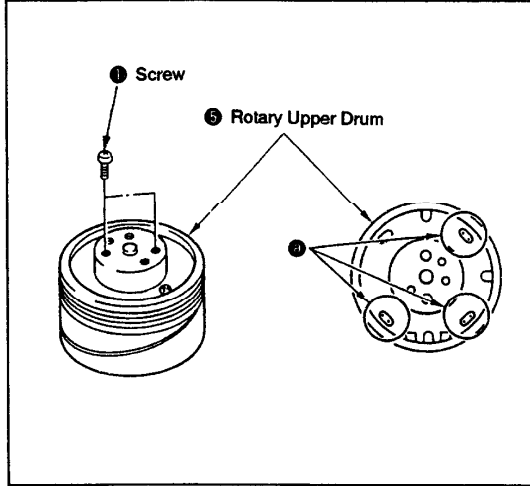
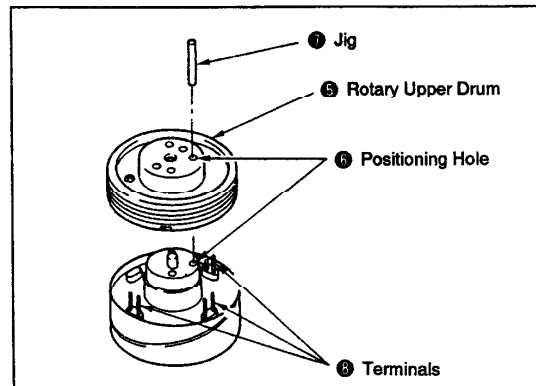

Fig. 3-22.
Fig. 3-24.
- 1) Detach the six solderings ④, then use a pair of tweezers or the like to confirm that the terminals passing through the board holes from below can move freely.
- 2) Remove the two screws ① (See Fig. 3-22).
- 1) Wipe clean the flange surface and the rotary upper drum ⑤ surface that makes contact with it, and confirm that they are free from dirt and scratches.
- 2) Insert the jig ⑦ (Ref. No. J-7) into the drum positioning hole, then set the rotary upper drum ⑤ by passing the jig through its positioning hole ⑥.
- Note:** Confirm that the terminals ⑧ protrude slightly from the rotary upper drum board holes (See Fig. 3-24).
- 3) Remove the jig ⑦ and push down the rotary upper drum ⑤ gently by hand. If it does not go all the way down, secure it temporarily by tightening the two hexagon socket screws ① alternately.
- 4) Insert the jig ⑦ into the positioning hole ⑥ again and confirm that it goes in smoothly. If it does not, loosen the two screws ①, repeat step 3 of the Removal paragraph and restart the setting procedure.
- 5) Tighten the screws ①.
- 6) Solder the terminals ⑧ (④ in Fig. 3-22).